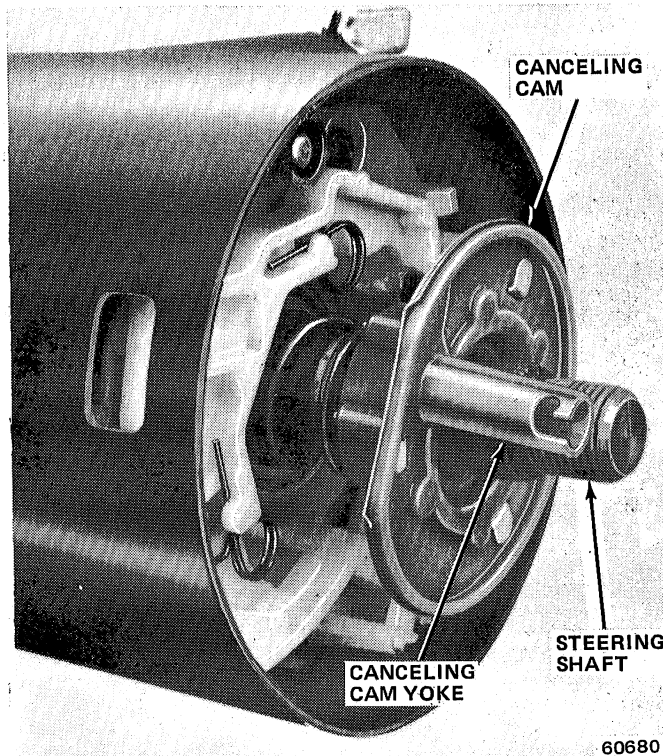

Fig. 2J-24 Positioning Canceling Cam
(23) Place turn signal switch in neutral position and install hazard warning switch knob.
(24) Position lock plate on steering shaft.
(25) Install replacement steering shaft snap ring on sleeve of Compressor Tool J-23653 and install tool on steering shaft (fig. 2J-25).
CAUTION: Identify the steering shaft nut thread type before using the compressor tool. If the shaft has American threads, use the compressor tool as is. However, if the shaft has metric threads (fig. 2J-2), replace the compressor tool forcing screw with Metric Forcing Screw J-23653-4 before using the tool.
(26) Compress lock plate and install snap ring in steering shaft groove (fig. 2J-25).
(27) Remove compressor tool. Be sure snap ring is fully seated before removing tool.
(28) Install lock plate cover.
(29) Remove Support Fixture Tool J-23074, if installed.
(30) Install column mounting bracket. Tighten bracket attaching bolts to 20 foot-pounds (27 N•m) torque.